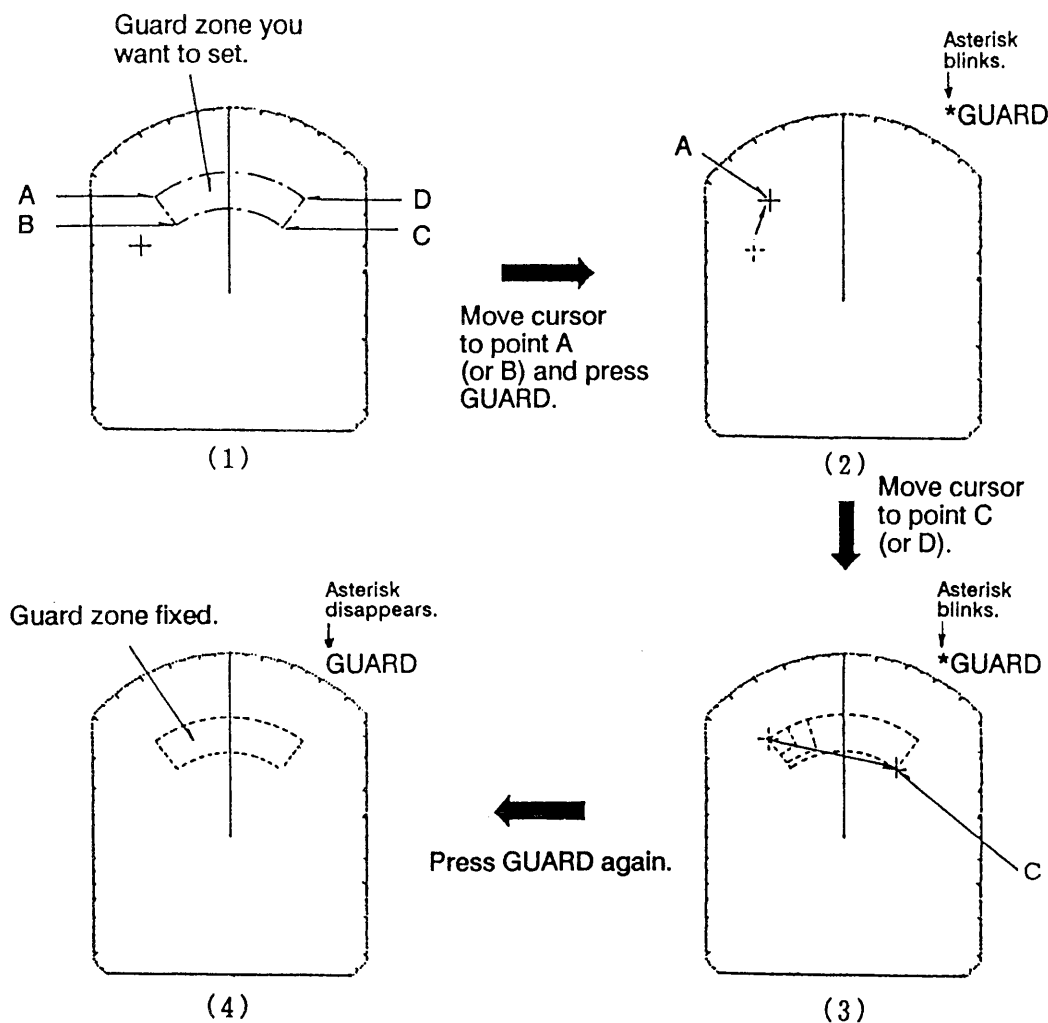

Figure 2-14 Setting Guard Zone
1. Mentally create the guard zone you want to display on-screen. See Figure 2-14 (1).
2. Set the upper (lower) left edge of the guard zone with the cursor. Press the **GUARD** touchpad. The indication "*GUARD" (asterisk blinking) appears at the upper right-hand side of the screen. See Figure 2-14 (2). The asterisk indicates the guard zone is partially set, but the alarm function has not been actuated.
3. Moving the trackball clockwise, set the lower (upper) right edge of the guard zone. The guard zone now appears on the display but the alarm function has not been actuated yet. See Figure 2-14 (3).